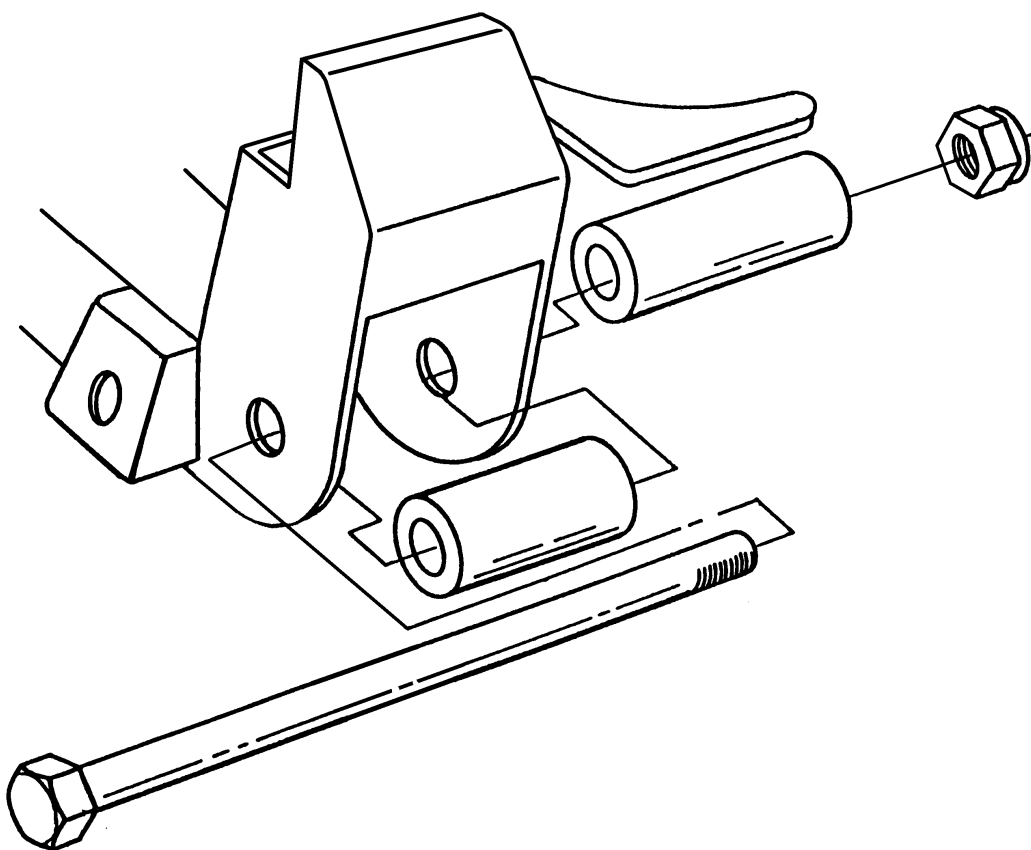

Figure 2
4. If you purchased a complete I.F.S. Package from *HEIDTS*, it was supplied with Full Lower A-Arms. Begin by installing the Lower A-Arms onto the crossmember. The holes where the lower control arms attach to the Crossmember must be enlarged to 5/8". Mount the Crossmember Spacers and the Rear Spacers which were supplied with the Lower Control Arms onto the Crossmember as shown in Figure 2 using the supplied Inner Bushing Bolts, Nuts and a temporary spacer under the Nuts. **DO NOT** use the A-Arms for this operation as the welding heat will melt the rubber bushings. Tighten the Bolts and Nuts tight. Weld the Rear Spacers to the Crossmember all around. Weld the Crossmember Spacers as far as possible inside the crossmember on both ends. Position the Gussets horizontally, not vertically, against the Rear Spacers and the back of the Crossmember. Weld Gussets to Spacers and Crossmember. When it cools, remove the bolt.